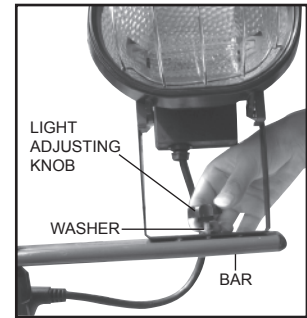

Figure 1
- 2- Mount each of the 2 fixtures to the cross bar in Figure 1.
- A: Put the washer between the U bracket of the fixture and the bar to allow the fixture to turn without scratching the bar as shown in Figure 1.